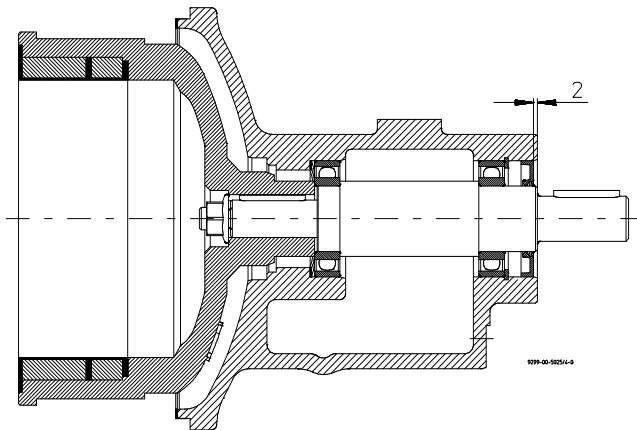

Fig. 9
- Insert rotary shaft seal **421/1**. Distance to outside edge 2 mm. See **Fig. 9**.